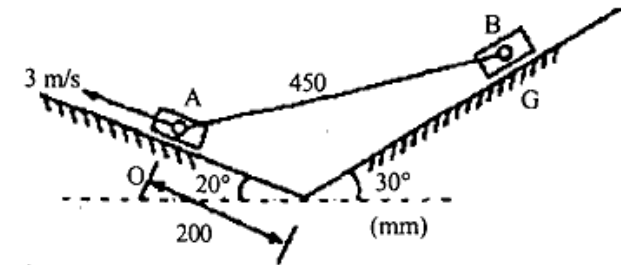

Figure 3
- For the position of the mechanism shown in Fig.3. Find the velocity of the slider B for the given configuration if the velocity of the slider A is  $3 \text{ m/s}$ .